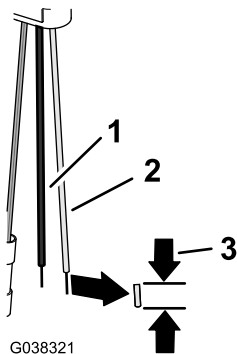

Figure 42
- 2. Strip 8 mm (5/16 inch) of insulation from the pink and black wires of the 3-pin adapter (Figure 42).